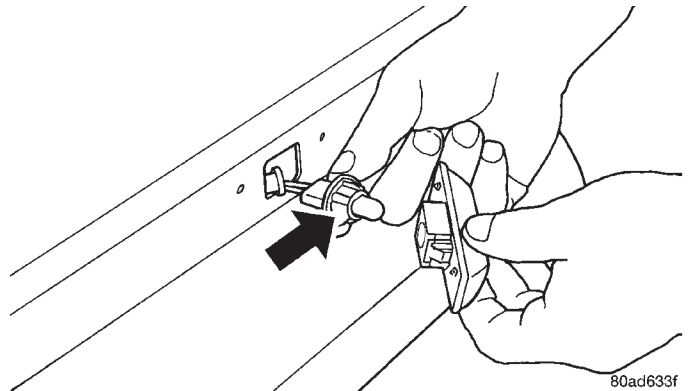

Fig. 3 Side Repeater Light
2. Rotate and pull the socket from the housing (Fig. 3).
1. Align the side repeater lamp bulb to the socket (Fig. 3).